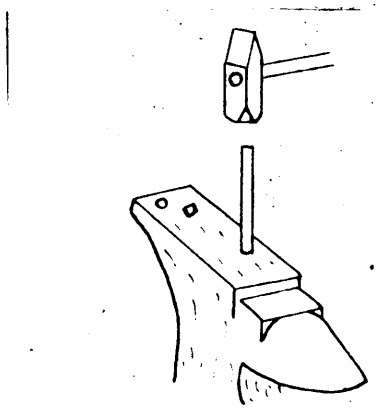

Figure 1.
2. Heat to a cherry red and square the ends as shown in (Figure 1).